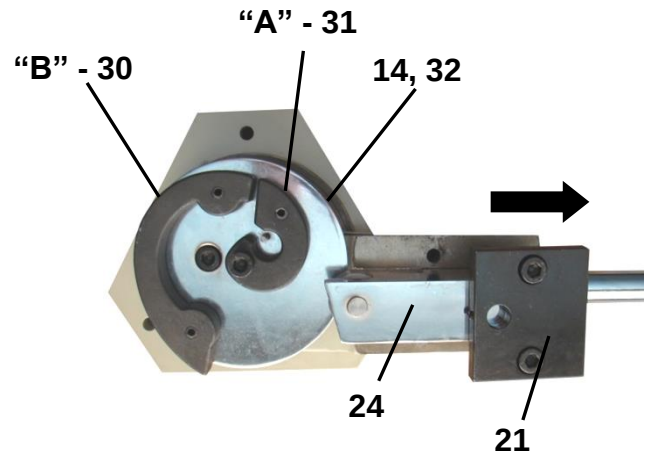

figure 12
2. Relocate the bending block assembly (#20, 21, 22, 23, & 24) to the back set of holes as shown in fig. 12.
4. Remove the die mounting plate (#4) after removing the (2) socket head bolts (#14).
8. As the body (#3) is rotated counterclockwise (**ccw**) with the handle, the wheel moves closer to the piece part due to the shape of the dies. Back off and tighten the bending block at a location where you get the most handle rotation and still achieve a good quality scroll bend. Don't be afraid to experiment. When you reach the end of die "A" and want to scroll further, add die "B" (#30) as shown in (fig. 12).